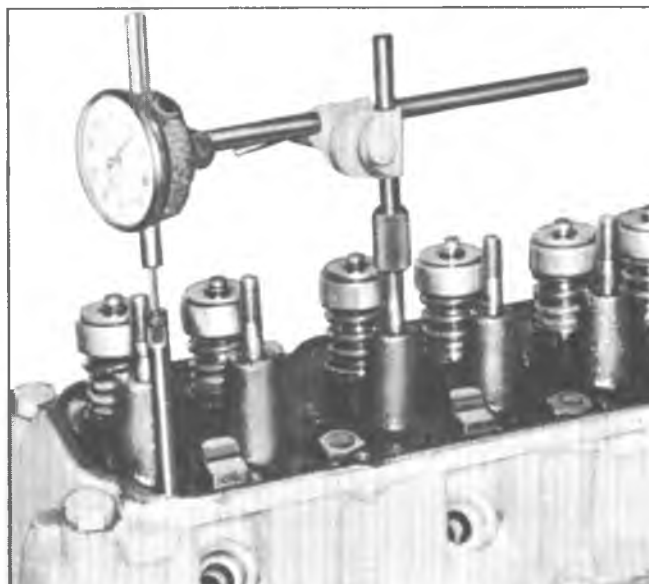

Fig. 24L—Measuring Camshaft Lobe Lift
2. Position indicator with ball socket adapter (Tool J-8520) on push rod (fig. 24L).